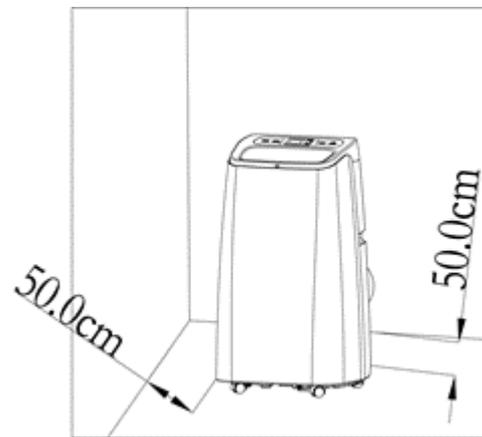

Fig.4
1. Move the unit with installed vent hose and fittings before the window and the distance between the unit and walls or other objects shall be least 50 cm (as shown in fig.4).